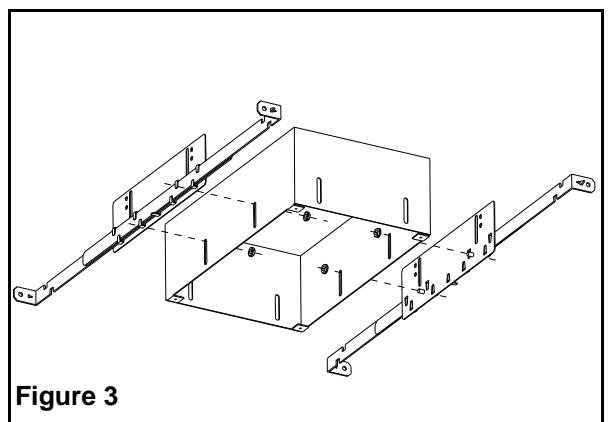

Figure 3
- a. Determine the desired orientation between framing members. Locate sides of the back box that will be at right angles to the framing members. Mount the adjustment brackets to these sides using the studs on the brackets and nuts. Do not tighten (see fig. 3)
- a. Determine the desired orientation between grid members. Locate sides of the back box that will be parallel to the longest grid members. Mount the adjustment brackets to these sides using the studs on the brackets and nuts. Do not tighten (see fig. 3).